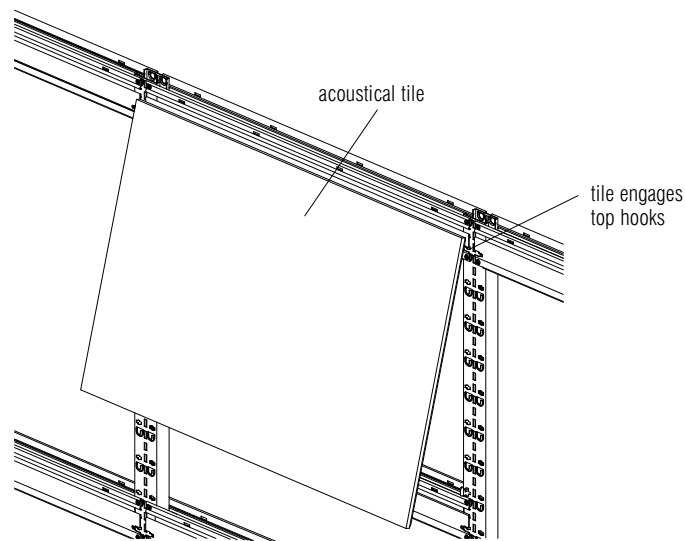

Figure 68
1. With the tile hooks already in place on the frame (See **Installing Tile Hooks on page 13**), hang the tile on the top two hooks. **Figure 68.**